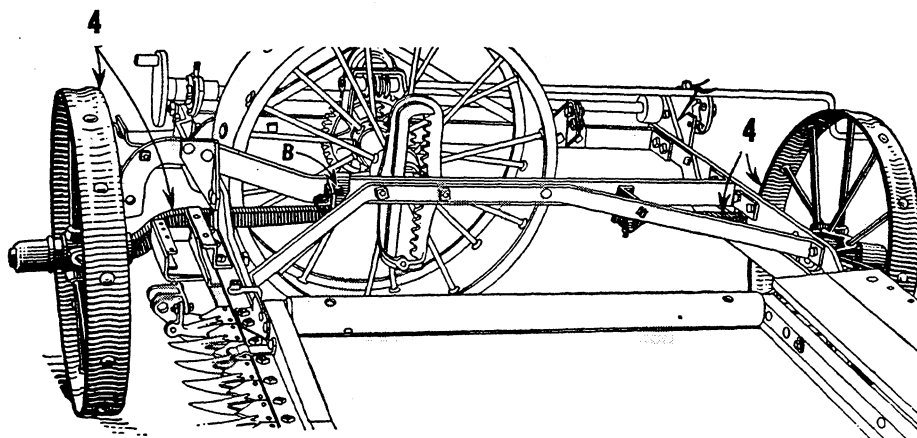
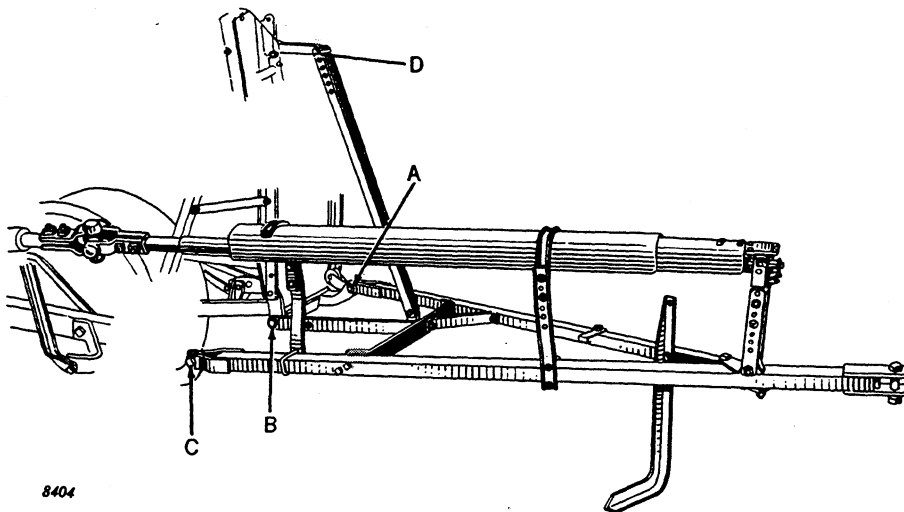

Figure 103
Figure 104
1. Bolt bracket "B," Figure 103, to main frame if this was not done when binder was set up.
Disconnect pins at "A," "B," "C" and "D," Figure 104, and remove tractor hitch from binder and place on platform. Put the front axle and wheel in place and then put on the rear axle and wheel. Install the largest axle to the front. See Figure 103.